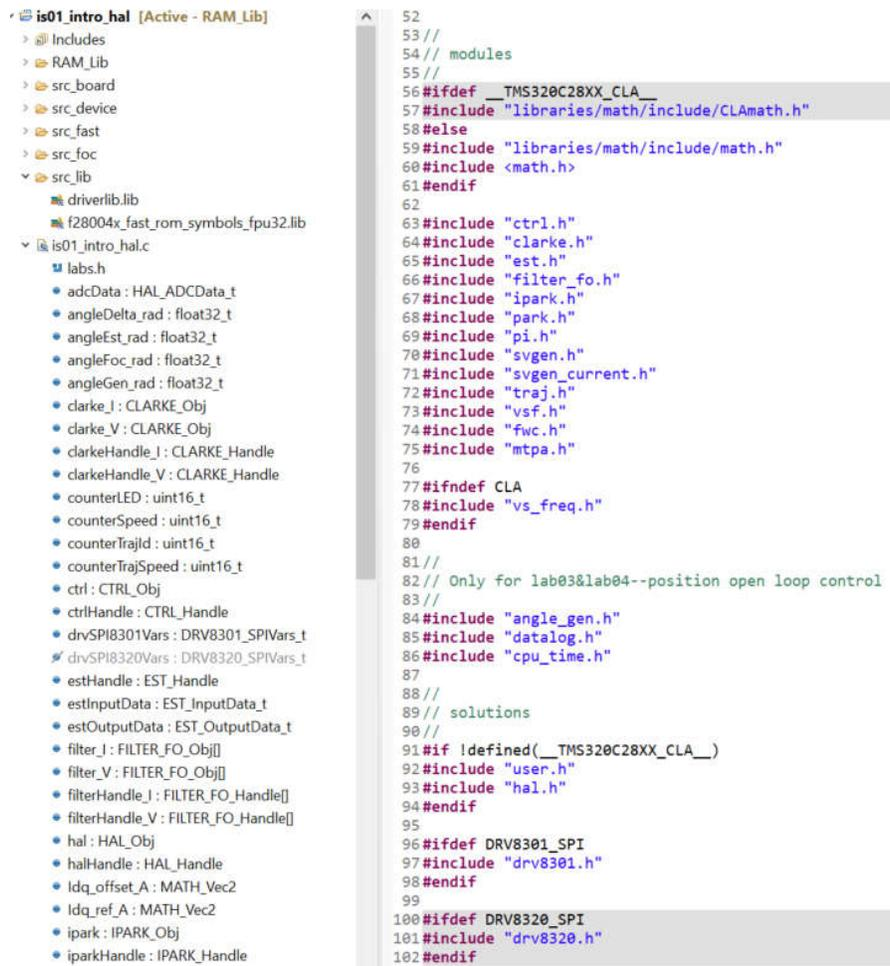

Figure 9: Additional header files required for project “is01_intro_hal” and later projects, found in labs.h
4. “labs.h” is now open for review. This header file includes additional header files that will be used in the project and global variable object definition for both this and future lab projects as shown in **Figure 9**.